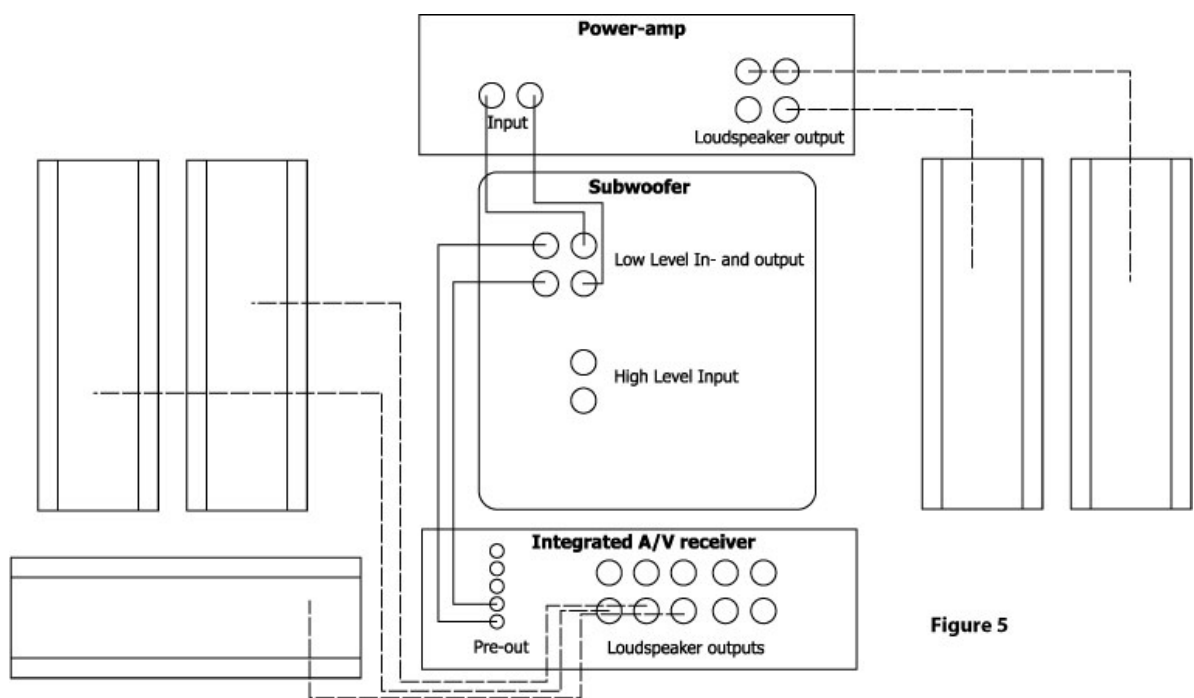

Figure 5
**(Figure 5) If you have an AV-receiver for five, six or seven channel Dolby Digital/DTS surround sound which has separate pre out connections.**